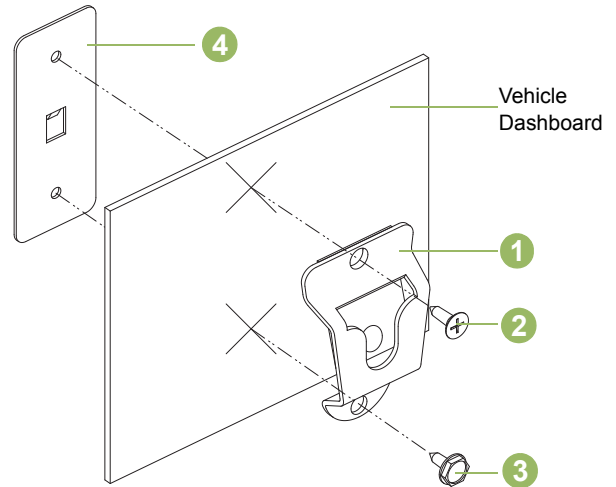

Figure 4.2: Installing the Mounting Bracket
Refer to Figure 4.2 below and attach hang-up clip (1) to vehicle using two sheet metal screws and back-up plate provided. Place back-up plate (4) behind dashboard. Use flat-head screw (2) in top mounting hole and hex-washer screw (3) in bottom mounting hole. Be certain mounting screws fasten into holes in back-up plate.